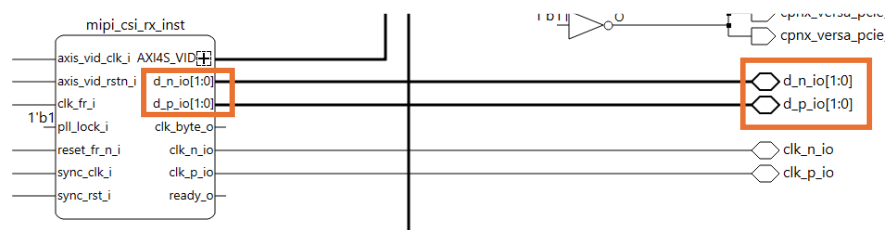

Figure 7.4. Lattice Propel Builder Connection Update for MIPI CSI RX Data Lanes
6. Update the d_n_io and d_p_io inout ports from [3:0] to [1:0] and reconnect the inout ports to the corresponding ports as shown in Figure 7.4.